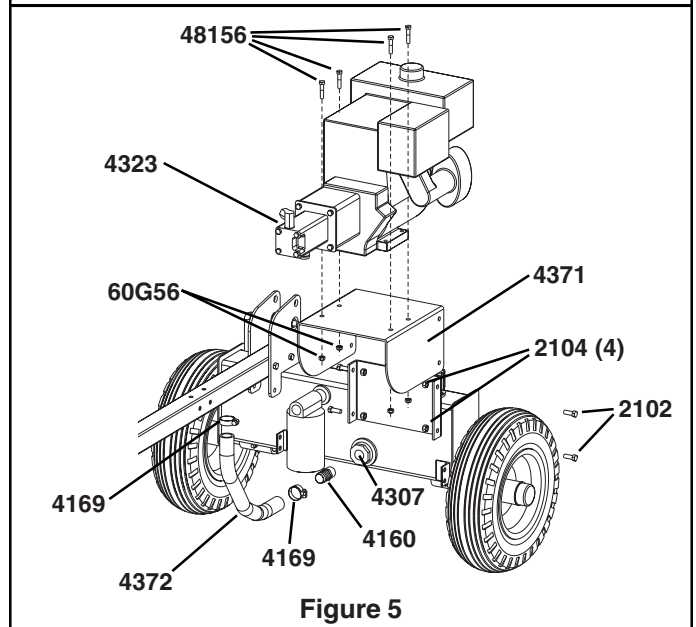

Figure 5
10. Remove the 1" barbed coupler (4160) from the parts bag and assemble into the suction screen (4307) that has been installed at the factory. Tighten. **See Figure 5.**
11. Assemble the engine plate (4371) onto the reservoir using four 3/8-16 x 1" bolts (2102) and four 3/8-16 bi-way locknuts (2104). Next, assemble the engine assembly to the plate using four 5/16-18 x 1-1/2" (48156) and four 5/18-18 bi-way locknuts (60G56). Attach the suction hose (4372) using two hose clamps (4169) between the 1" barbed coupler and the hydraulic pump (4323). **See Figure 5.**